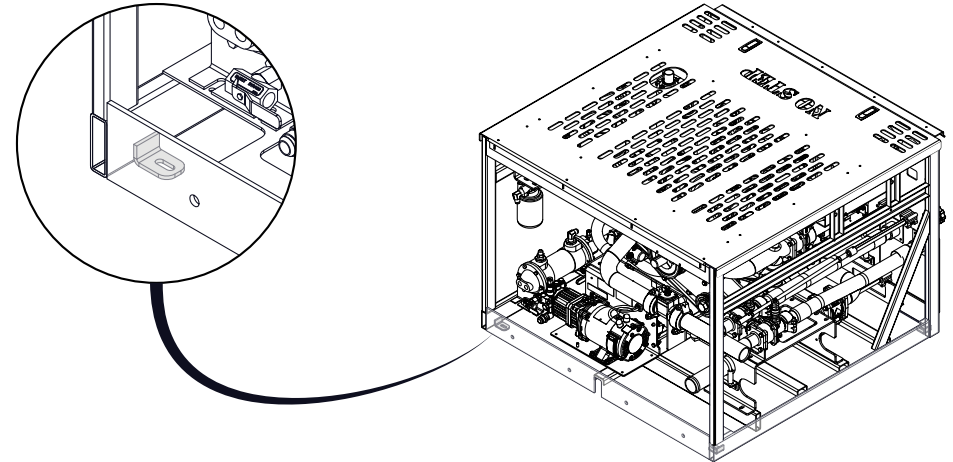

Figure 14
- 1 Locate the mounting tabs on the frame (**Figure 14**).